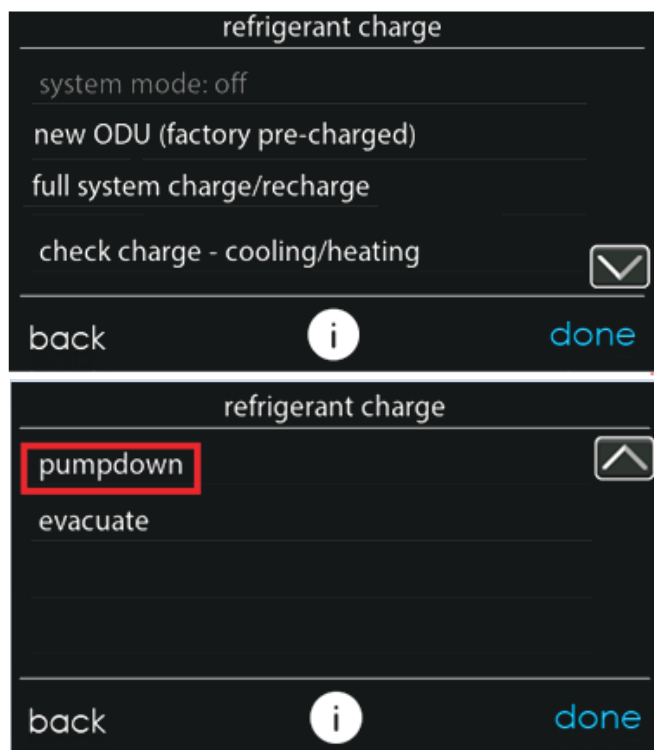

Fig. 22 – Pumpdown and Evacuation Selection
2. In the "installation and service" menu of the Ion™ Black System Control (see Fig. 12), go to "refrigerant charging" and then "pumpdown" (see Fig. 13 and Fig. 22).